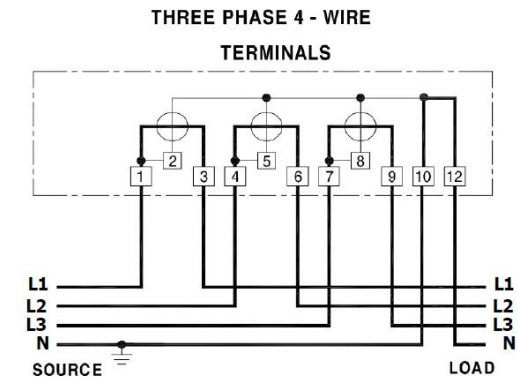

Figure 2.3 Source and Load Line connection
(1) Connect the meter to source and load line as diagram which is indicated on nameplate. The diagram is shown in figure 2.3.